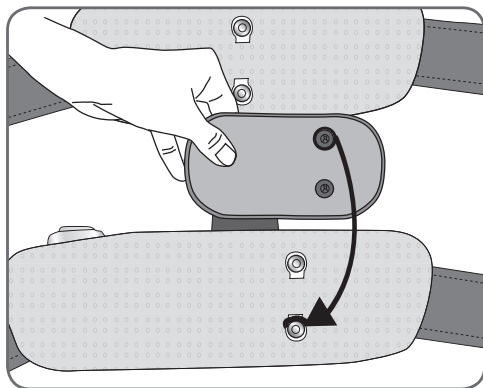

Figure 8-47: Thigh electrode marking ring on the Thigh distal panel snap.
1. Check the orientation of the distal thigh cloth electrode, and attach the Thigh electrode marking ring to the appropriate snap. See Figure 8-47.